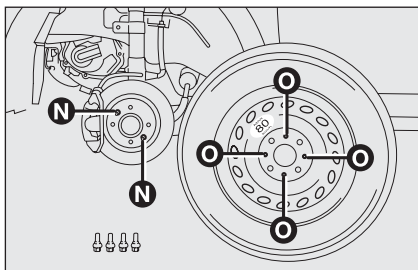

fig. 7
- fit the spare wheel making pin **N**-fig. 7 coincide with one of the wheel holes **O**;